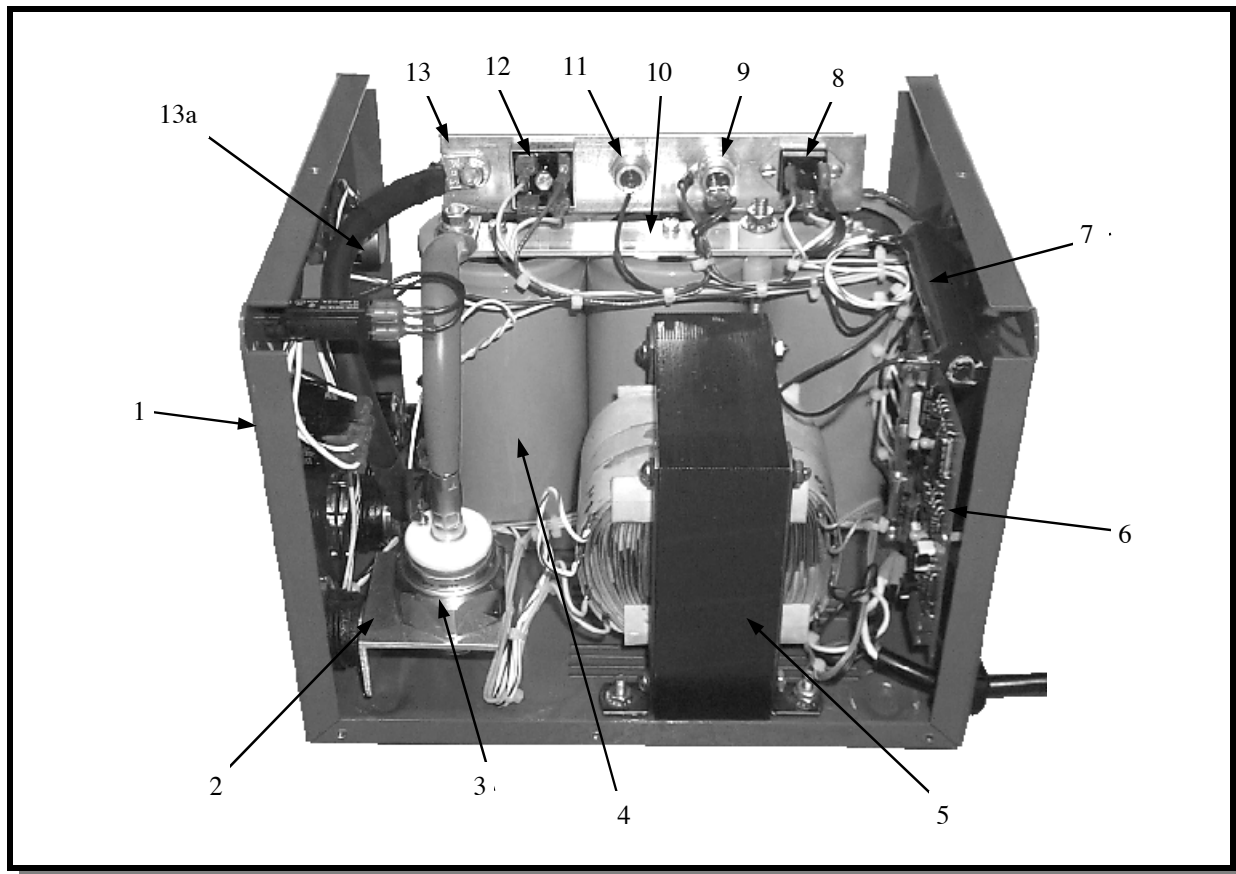

Figure 15 Parts List
16.0 ASSEMBLY CD-212 CONTROLLER (see Figure 15,16, & 17)